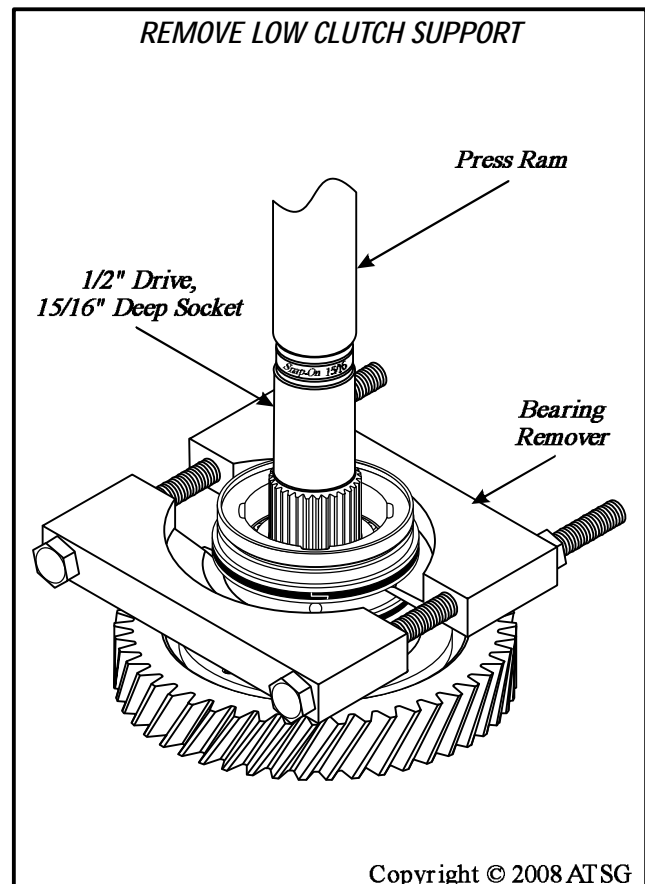

Figure 72
16. A press is then required, along with a 15/16" deep socket and a bearing remover, as shown in Figure 72, to remove the transfer gear and shaft from the low clutch support.